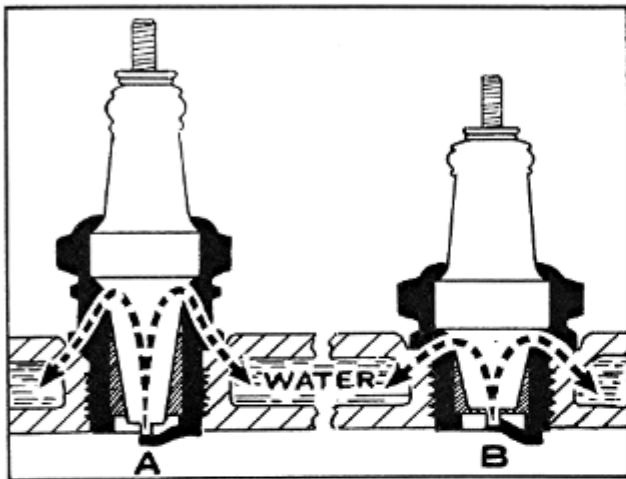

FIGURE 1
Spark plugs are classified as to heat range depending on their ability to transfer heat from the tip of the insulator to the engine coolant. This factor is controlled principally by the length of the heat path. This is shown in illustrations A and B (See Fig. 1). The plug shown above (A) is known as the hotter plug of the two.